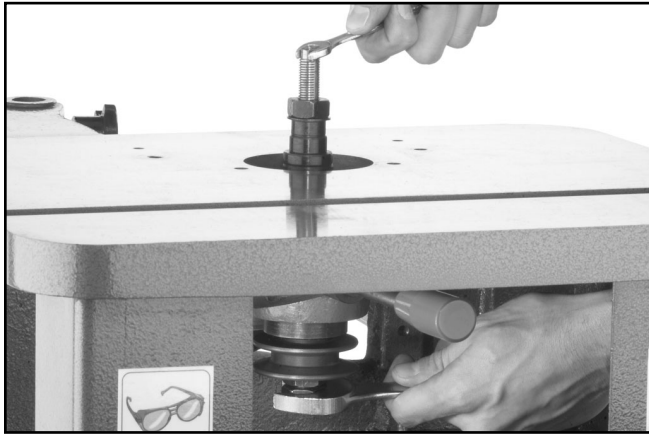

Figure 28. Loosening lower spindle nuts.
3. Remove the two spindle nuts on the bottom of the spindle as shown in **Figure 28**.